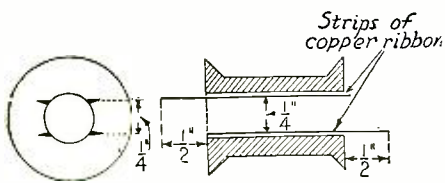

Fig. 1. In a Common Wooden Spool Insert Two Strips of Copper Ribbon in Slits Made on the Inside of the Spool.
(C) The set is composed of a tapped inductance for tuning, a tapped feed back plate inductance wound on the same form and adjacent to the tuning coil, a short wave condenser, grid condenser and the tube, phones, etc. Diagram, Fig. 1.
(D) The wiring form is a tube 3/4" in diameter and 8" long. I have used the long type of container from a soda store. Care must be taken that the position of the coils, as shown in Fig. 1, is maintained. That is, if 200-meter stations are being received, the used portion of the tuning coil must be next to the used portion of the feed back coil.